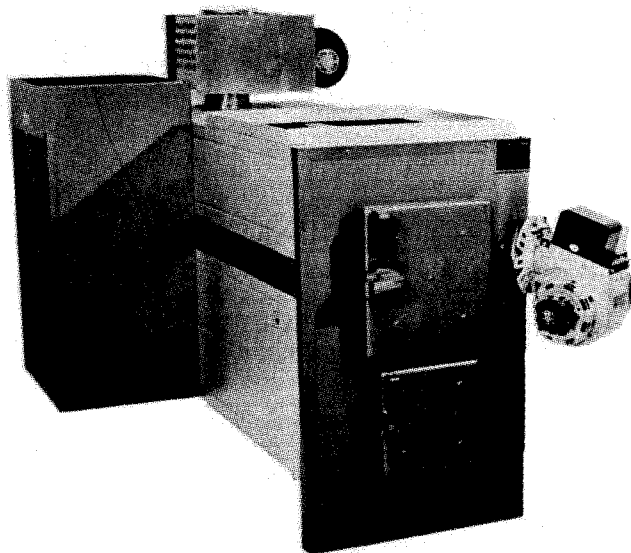

Fig. 83. Longwood wood/oil or wood/gas furnace.
16. **Longwood Furance Corp.** (manufacturer), Rt. 2, Box 223, Gallatin, MO 64640. A built-in flue-heat reclaimer on the Longwood (Fig. 83 and Table 10) extracts heat from hot gases as they pass over 35 heat tubes. A thermostatically controlled blower forces fresh air through the heat tubes and, according to the manufacturer, reclaims as much as 30,000 Btu. Oil or gas (LP or natural) power burners are available as standard equipment and are interchangeable. Air-conditioning units up to 4 tons can be accommodated. The Longwood's combustion chamber is designed to slow the burning process, providing more complete combustion at lower flue temperatures. Manufacturer claims its "unique, no-draft" system converts wood to charcoal, and in the process generates and burns combustible gases to attain an efficiency of up to 75 percent while controlling overheating. Solid fuel and liquid or gaseous fuel are combined in the same combustion chamber. The oil or gas burner fires directly onto the wood without applying a draft of additional air, thus converting the wood into charcoal. The wood remains as slow-burning charcoal between burning cycles, providing even heat with minimal heat-loss. The nearly complete combustion leaves only a small amount of ash. A roller inside the feed door allows ease of loading large logs. Wood provides about 75 percent of the heat during the firing cycle, and the furnace is capable of providing heat during power failures.